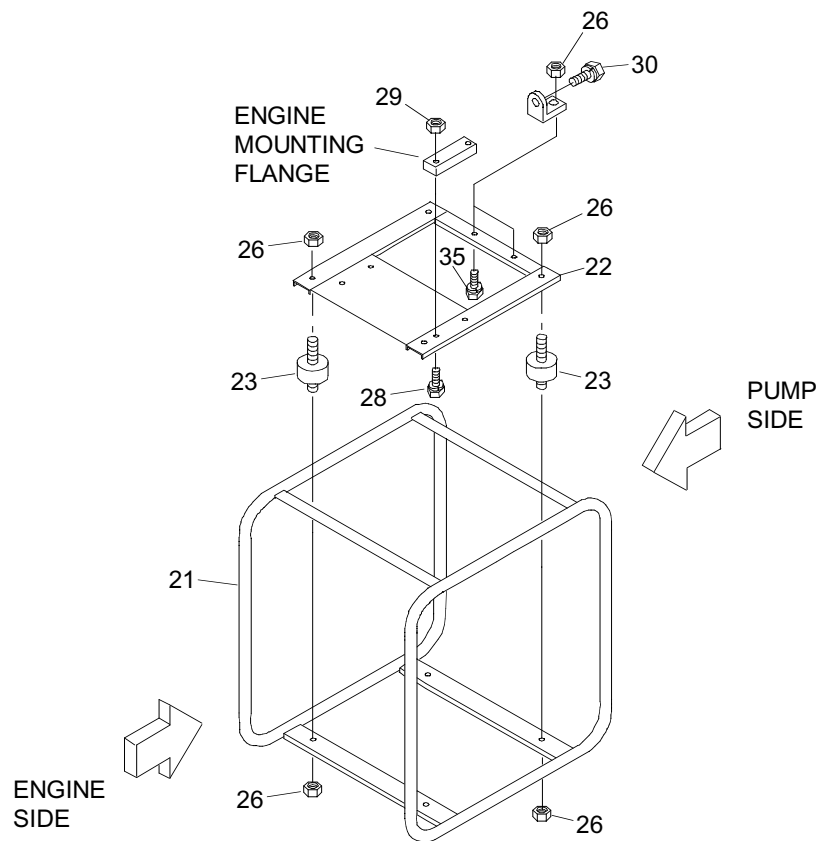

Figure 4-9: Exploded View for Frame and Base of Model TE2-100HA Pump
- Refer to Figure 4-9 for location of parts used on Models TE2-100HA.
B. Replacement of Engine Cushions (23) on Model TE2-100HA.
- (1) Remove pump components according to the instructions in **4-11. Remove Centrifugal Pump**.
- (2) Remove nuts (26) and bolts (28) from base (22). Remove engine (33) from base (22).
- (3) Remove nuts (26) from threaded ends of cushions (23).
- (4) Lift the base (22) from cushions (23).
- (5) Remove nuts (26) from underside of frame (22) and check cushions for damage. Replace damaged cushions.
- (6) Install threaded end of new cushions (23) through holes at pump end of frame (21). Secure with nuts (26).
- (7) Install short end of new cushions (23) through holes at engine end of frame. Secure with nuts (26).